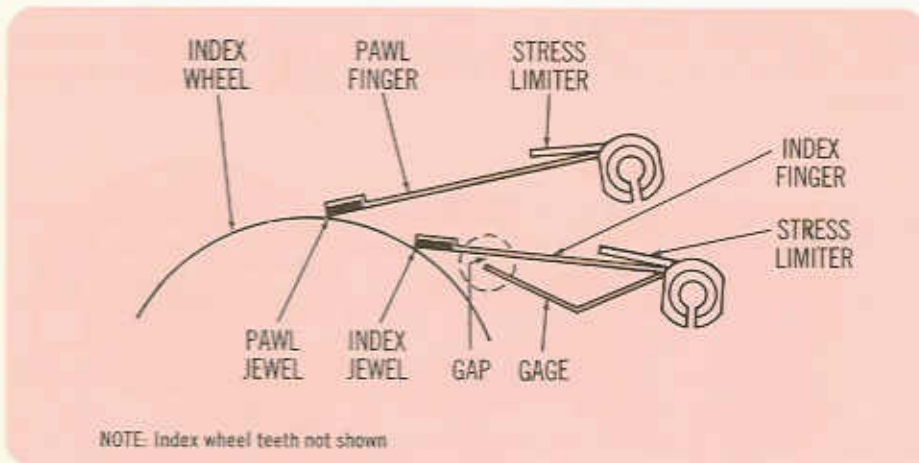

Fig. 19
4. Use collet adjusting tool to rotate index collet, bring index jewel into wheel until the gap is larger than it was in step 3 by 1 to 1½ index jewel thicknesses. If the gap in step 3 was less than the thickness of the index finger, for practical purposes this gap should be increased to about 1½ jewel thicknesses at the completion of collet adjustment. (See Fig. 19.)
5. Observe the stress limiters on index and pawl fingers. (See Fig. 19.) Check that no more than 1/3 of the length of the stress limiter is in contact with the index or pawl finger. Also, check that end of stress limiter is no more than 3 thicknesses of the stress limiter away from index or pawl finger. If adjustment is necessary, use tweezers to bend stress limiter; then repeat steps 3 and 4.